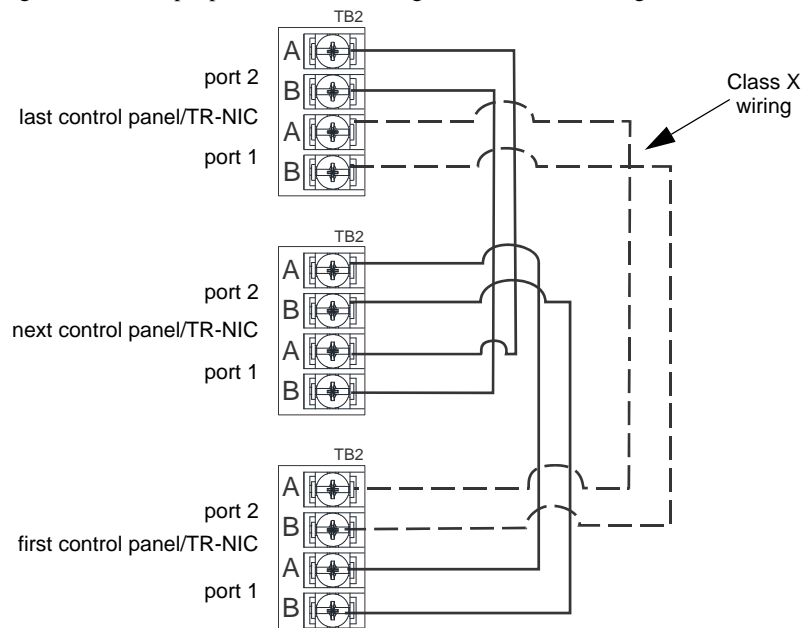
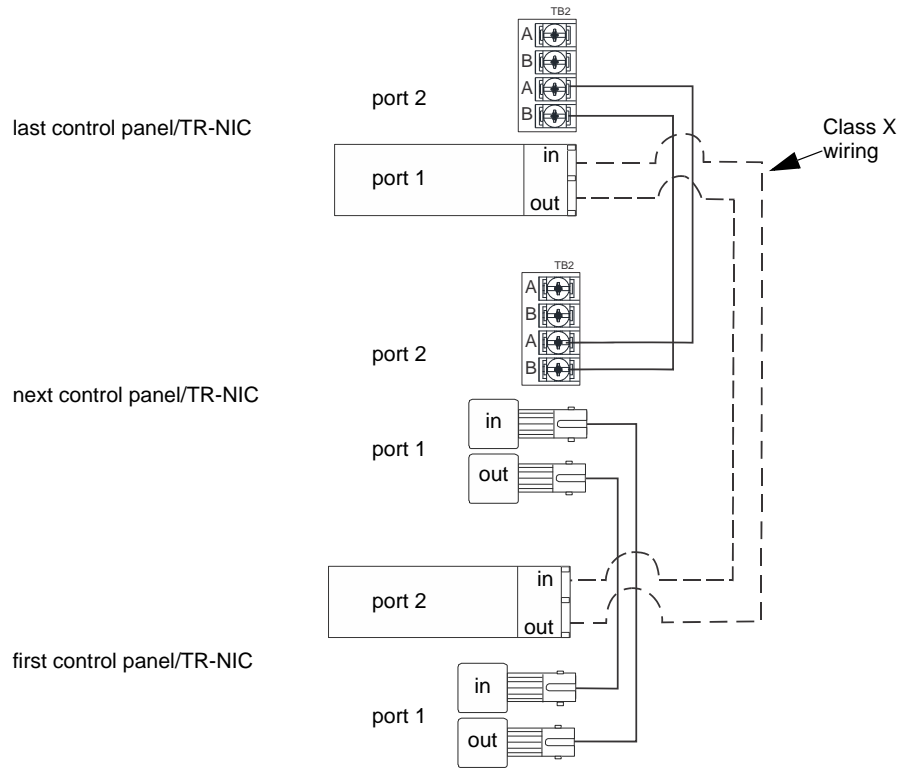

Figure 5.6 Twisted Pair Wiring Configuration
Figure 5.9 Twisted-Pair and Fiber-Optic Combination Wiring Example
- Based on the type of data medium chosen, run the twisted pair wiring/fiber-optic cable to the next TR-NIC using a Class B or Class X wiring method. A combination of both medium types can be used. See Figure 5.6 through Figure 5.9 for TR-NIC wiring examples.
Unshielded twisted-pair wiring between multiple panels is shown in Figure 5.6. Class X wiring is shown with a dotted line.
A mixture of fiber-optic cable and twisted-pair wiring between multiple panels is shown in Figure 5.9. Class X cabling is shown with a dotted line.